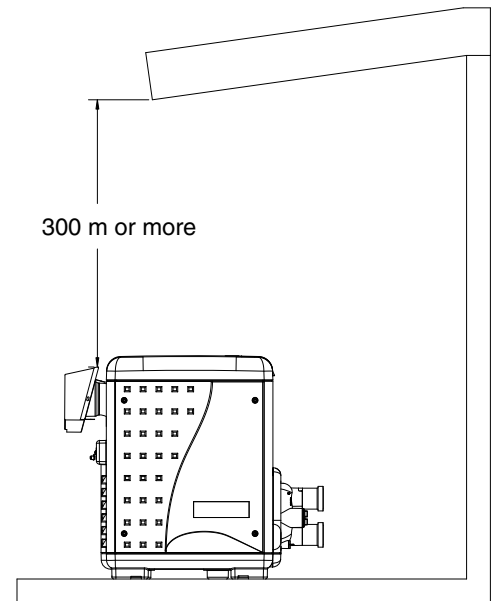

Figure 13.
- At least 300 mm below eaves, balconies and other projections (Figure 13). * Where eaves have openings into the house or roof space, the clearance required is 1500mm.